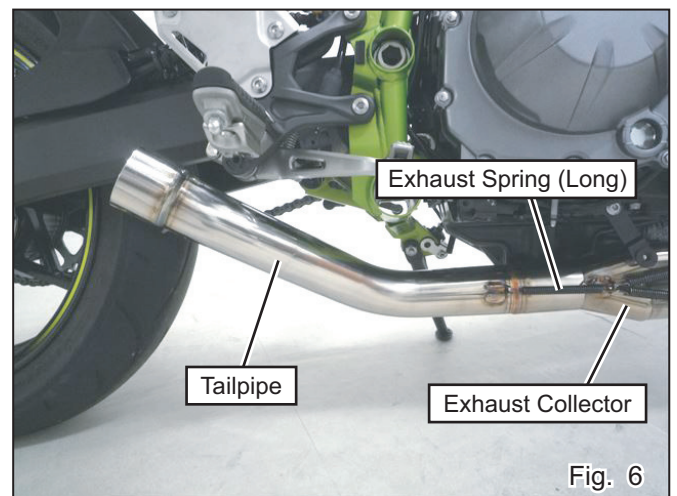

Fig. 6
- 7) Insert Tailpipe to Exhaust Collector and install Exhaust Spring (Long). (See Fig. 6)